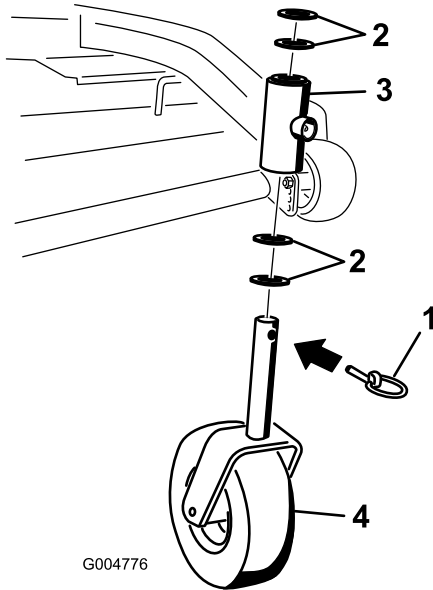

Figure 37
2. Remove the locking pin and spacer(s) from the top of the caster wheel fork (Figure 37).
6. Inspect the caster wheel fork for wear and replace if necessary (Figure 37).
7. Slide the caster wheel fork through the bushings in the mounting tube. Replace the spacer(s) onto the fork and secure with the retaining ring (Figure 37).